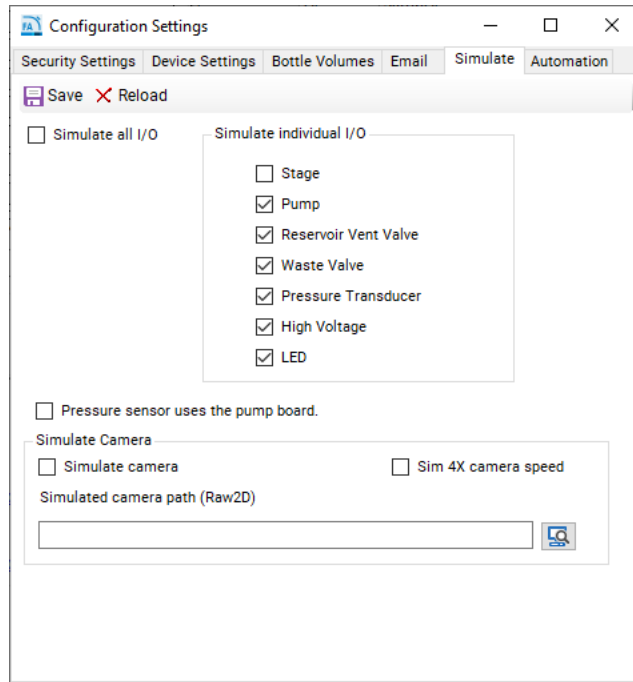

Figure 119 5400 Fragment Analyzer Simulate configuration menu
- 3 Select the **Simulate** tab (**Figure 119**).
In **Figure 119**, all individual components except the stage mechanism are simulated, enabling to test stage movement while simulating pumping and high voltage separation methods.